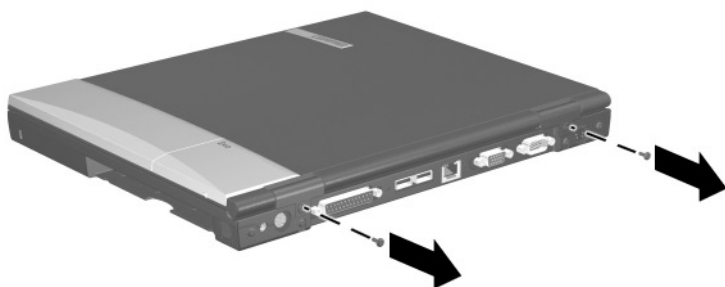

Figure 5-16. Removing the Switch Cover Screws
4. Remove the two black TM2.5 × 7.0 screws that secure the switch cover to the base enclosure (Figure 5-16).